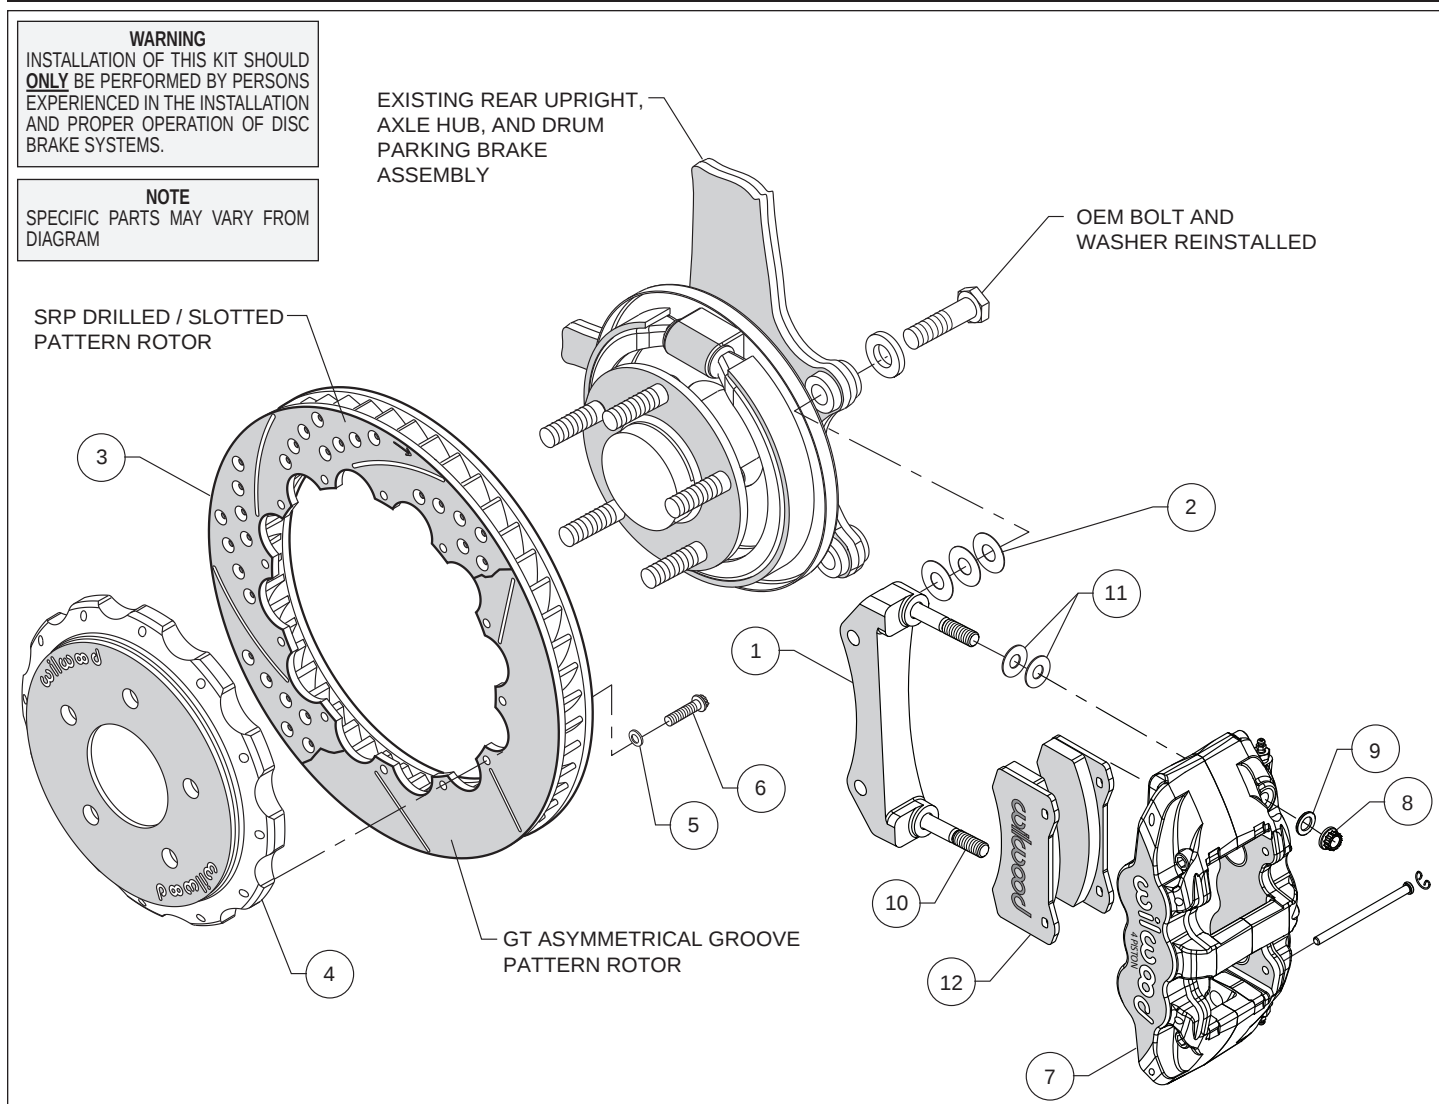
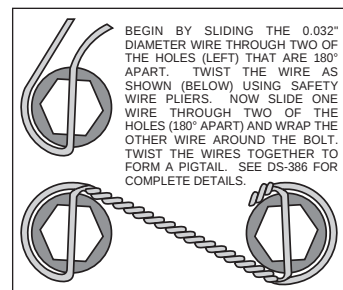

Figure 1. Typical Installation Configuration
Figure 3. Safety Wire Diagram
Assembly Instructions (numbers in parenthesis refer to the parts list and Figure 1 on the preceding pages):
- The caliper mount bracket assembly (1) should initially be installed with clean, dry threads on the mounting bolts. Orient the bracket as shown in Figure 1 and install using the saved OEM caliper mount bolts and washers, Figure 1, Photos 1 and 2. Initially place three .015" thick shims (2), on each bolt between the bracket and upright. Temporarily tighten the mounting bolts. **NOTE:** The bracket must fit squarely against the mount bosses on the upright. Inspect for interference from casting irregularities, machining ridges, burrs, etc. Later, after the caliper alignment has been checked, the mount bolts will be secured using *Loctite*®.
- Orient the rotor (3) and the hat (4) as shown in Figure 1 and Photo 3. Attach rotor to hat using bolts (6) and washers (5). Using an alternating sequence, apply red *Loctite*® 271 to the threads and torque bolts to 140 in-lb. For an added measure of security, the bolts may be safety wired using standard 0.032 inch diameter stainless steel safety wire as shown in Figure 3. Please refer to Wilwood's data sheet DS-386 (available at www.wilwood.com/Pdf/DataSheets/ds386.pdf) for complete safety wire installation instructions.
- Lubricate the caliper mounting studs (10) with lightweight oil. Initially place two .030" thick shims (11) on each stud between the caliper and the bracket, as shown in Figure 1 and Photo 4. With the bleed screws pointing up, mount the caliper (7) onto the bracket (1) using lock nuts (8) and washers (9), Figure 1. Temporarily tighten the lock nuts and view the rotor through the top opening of the caliper. The rotor should be centered in the caliper, Photo 5. If not, adjust by adding or subtracting shims (2) between the bracket and the upright. Always use the same amount of shims on each of the two mounting bolts. Once the caliper alignment is correct, remove the bracket mounting bolts one at a time, apply red *Loctite*® 271 to the threads, and torque to 65 ft-lb.
- Remove the two pad retaining pins from the caliper (7) by carefully popping out the pin retaining clips and sliding out the pins. Insert the brake pads (12) into the caliper from the bottom, Figure 1 and Photo 6. With the friction material facing the rotor, secure the brake pads in place with the pad retaining pins and clips, Photo 7. Reinstall the caliper onto the caliper mounting bracket and temporarily tighten the lock nuts. Check that the top of the brake pad is flush with the outside diameter of the rotor, Photo 8. If not, adjust by adding or subtracting shims (11) between the caliper and the bracket. After the caliper pad height is set, torque the caliper lock nuts (8) to 47 ft-lb.